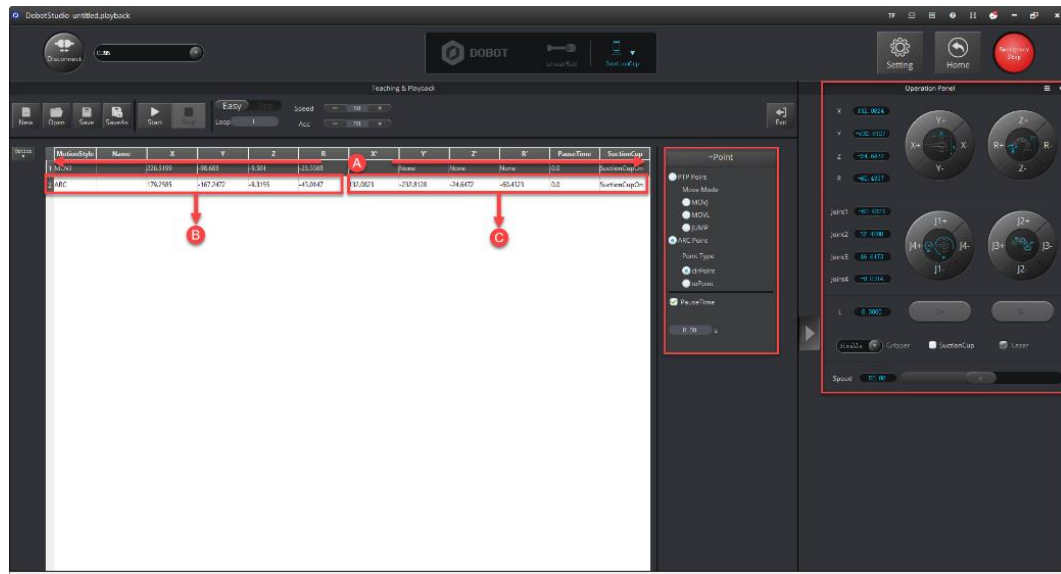

Figure 5.23 Save the second position B and the end position C
5. Click **+Point** to save the coordinates corresponding to the positions B and C, as shown in Figure 5.23.